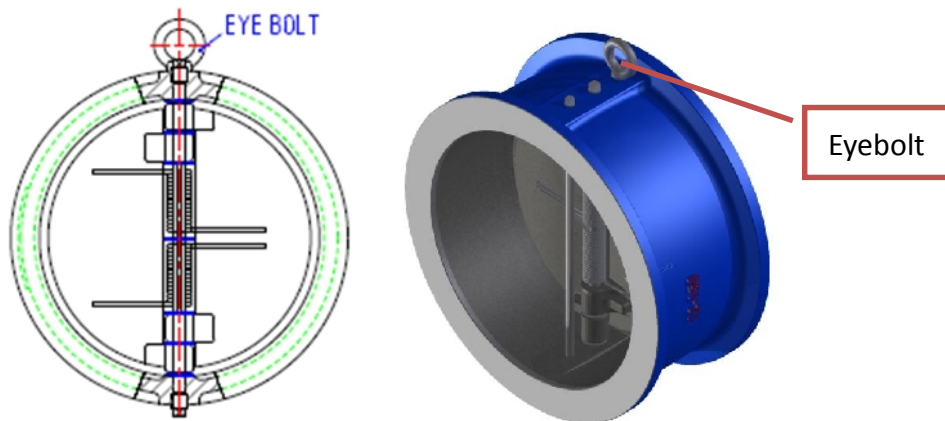

Figure 2
Step 2. In horizontal piping, it can be vertical lay the **Top Check** between the flanged by used the eye – bolt on the **Top Check** from 6" and larger sizes (figure 2).